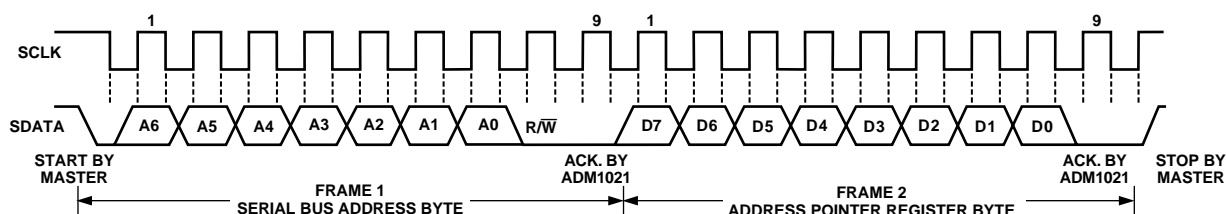

Figure 14. Writing to the Address Pointer Register Only
1. If the ADM1021's Address Pointer Register value is unknown or not the desired value, it is first necessary to set it to the correct value before data can be read from the desired data register. This is done by performing a write to the ADM1021 as before, but only the data byte containing the register read address is sent, as data is not to be written to the register. This is shown in Figure 14.
2. If the Address Pointer Register is known to be already at the desired address, data can be read from the corresponding data register without first writing to the Address Pointer Register, so Figure 14 can be omitted.